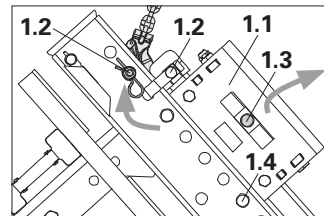

Fig. A1.16a
3. One Fitting Pin (1.4) remains in the adjusting unit. (Fig. A1.16a)
4. Insert Fitting Pins (1.2 + 1.3) into the holes in the crossbeam and secure with cotterpins. (Fig. A1.16a + A1.16b)